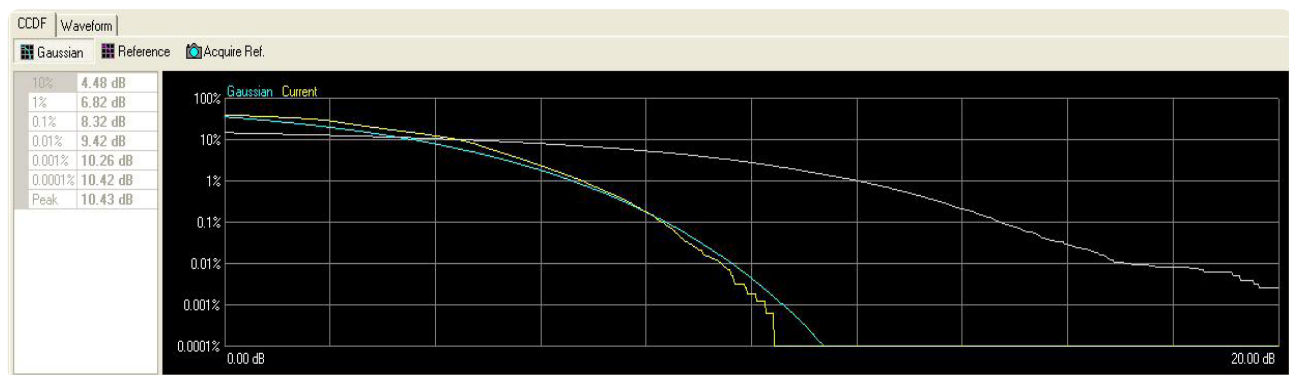
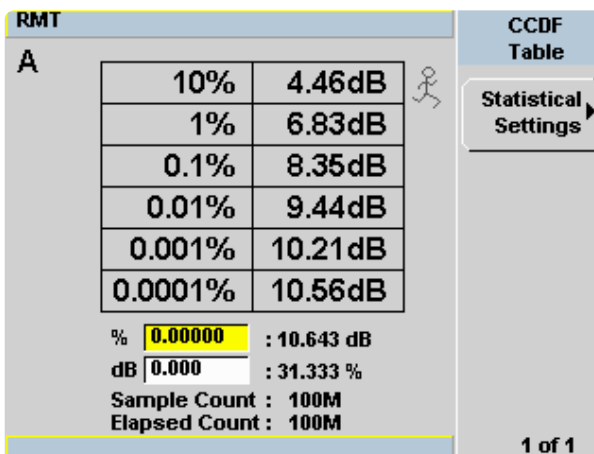

Figure 11. Waveform CCDF calculates the CCDF and peak-to-average ratio using the entire LTE-TDD waveform (with downlink signal off and uplink signal on)
Figure 13. CCDF table format
The P-Series power meter provides waveform CCDF measurement in graphical and table formats (See Figure 12 and Figure 13). In Figure 11, the Signal Studio under waveform setup shows that the CCDF plot and the table to the left of the CCDF plot display the calculated peak-to-average values. The blue line represents the Gaussian noise and the yellow line represents the input signal. Prior to measurement, a reference trace is set and compared with the Gaussian noise trace.
6. Set the CCDF in table format and expand the display. (See Figure 13).	[Disp], {Disp Type}, {1 of 2}, {CCDF Table}, [].